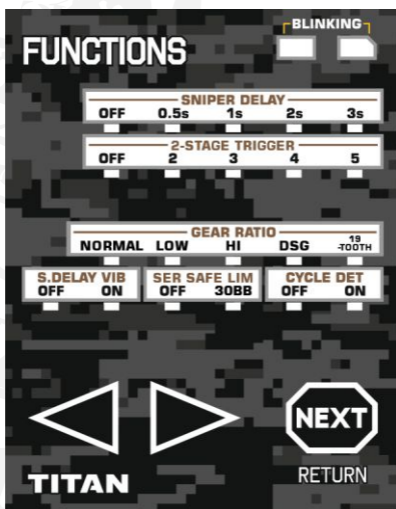

Fig.5
2. All current settings are displayed on the corresponding LEDs (*Fig.5*).